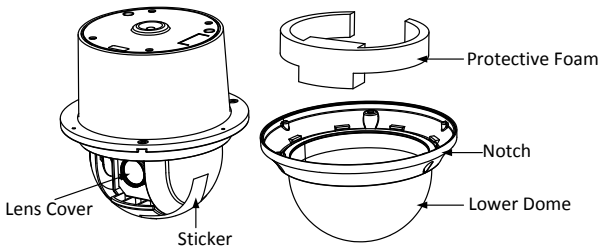

Figure 2-20 Disassemble the Speed Dome
- (1) Loosen three screws on the notch.
- (2) Remove the lower dome.
- (3) Remove the protective lens cover, foam and sticker from the dome drive as shown in Figure 2-20.